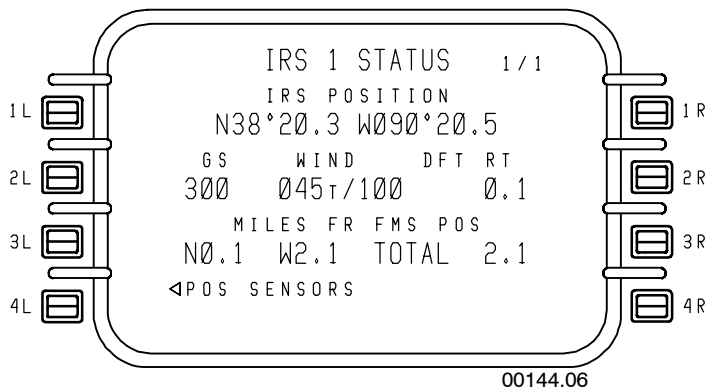

Figure 6-126
- **IRS(X) STATUS 1/1** – Figure 6-126 shows the IRS status page when the IRS is operating in the NAV mode. Values displayed are as follows: